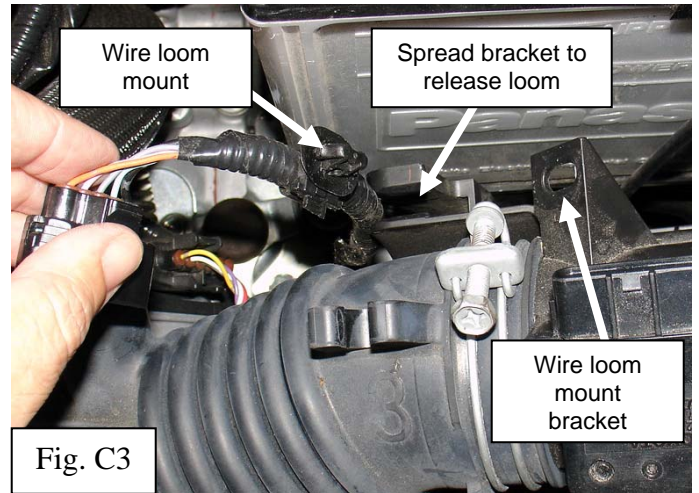

Fig. C3
6. Separate the MAF sensor wire loom mount from the air filter lid and the wire loom itself from the second bracket on the air filter lid. (Fig. C3)